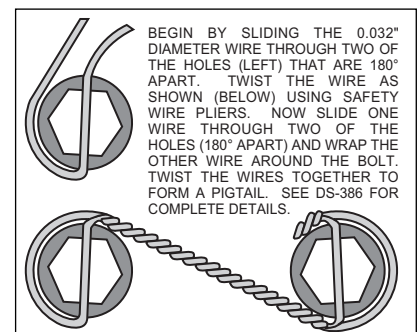

Figure 4. Safety Wire Diagram
- Slide the caliper mounting bracket kit assembly (1) onto the housing flange and then insert the axle assembly through the center hole of the caliper mounting bracket assembly (1) and secure using the stock Original Equipment Manufacturer (OEM) bolts and nuts. Stock OEM hex nuts that retain the caliper mounting bracket assembly (1) should be on the wheel side of the bracket. Apply red *Loctite*® 271 to the stock OEM bolt threads and torque to OEM specifications. Make sure the heads of the caliper mounting bracket assembly (1) insert nuts are **FACING OUTWARD TOWARDS THE WHEEL**.
- Align the correct hole pattern in the rotor (2) with the stud pattern on the axle flange. **NOTE:** Some OEM and after market axles come with stud sizes larger than 0.50" diameter. Verify stud size and have a qualified machine shop drill the hat section of the rotor to the correct size, if necessary. Slide the rotor (2) over the wheel studs covering the mounting bracket assembly (1) and against the axle flange face.
- **NOTE:** Please reference the caution statement at the beginning of the assembly instructions. **WITH THE BLEED SCREWS POINTING UP**, mount the caliper (3) over the rotor (2) and onto the caliper mounting bracket (1) using lock washers (4) and mounting bolts (5). View the rotor through the top opening of the caliper. The rotor should be aligned in the center of the caliper. If not, adjust the caliper by using 0.032 inch shims (6) by placing them between the caliper mounting bracket (1) and the caliper (3). Apply red *Loctite*® 271 to the mounting bolt threads (5), torque to 30 ft-lb. Safety wire the caliper mounting bolts (5) using standard 0.032 inch diameter stainless steel safety wire as shown in Figure 4. Please refer to Wilwood's data sheet DS-386 (available at www.wilwood.org/ds386.pdf) for complete safety wire installation instructions.